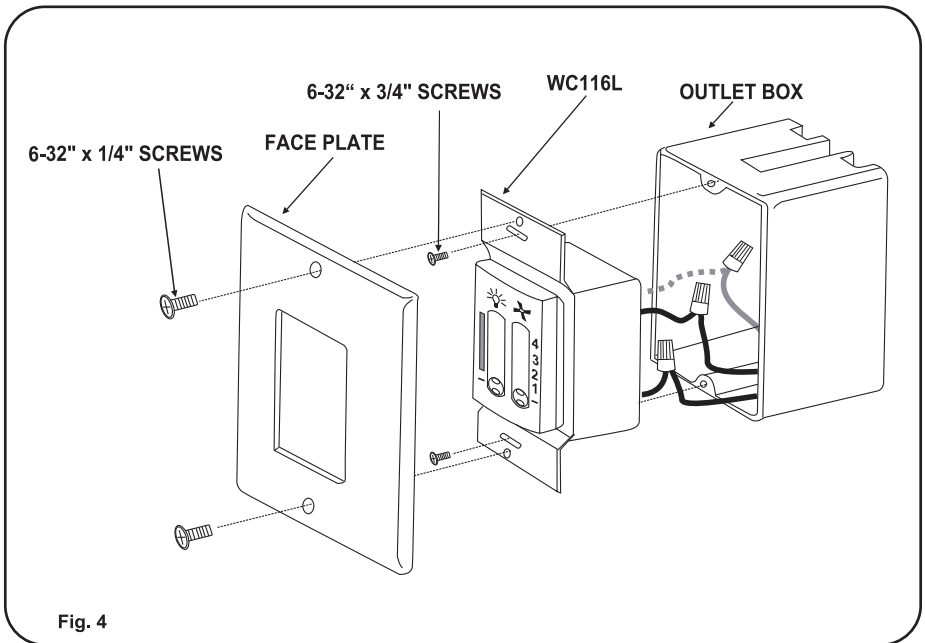

Fig. 4
1. (Fig. 4 ) Carefully tuck the wire connections inside the outlet box. Secure the wall control with the two screws provided.